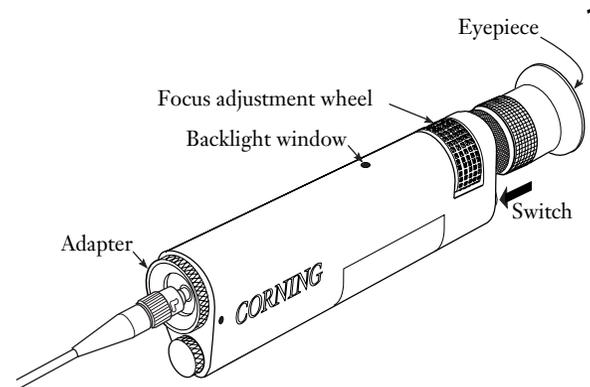

Figure 6-6
**6.2-7** After preparing the inspection microscope according to its manufacturer's instructions, insert the connector into the microscope adapter (Figure 6-6).